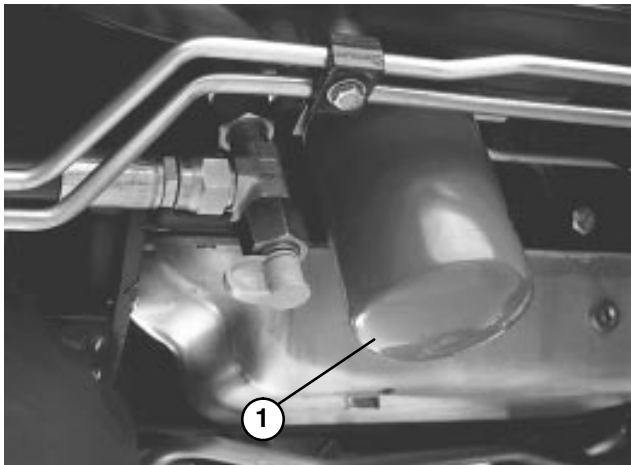

Figure 47
REPLACING HYDRAULIC FILTER (Fig. 47)
2. Clean area around filter mounting area (Fig. 47). Place drain pan under filter and remove filter.